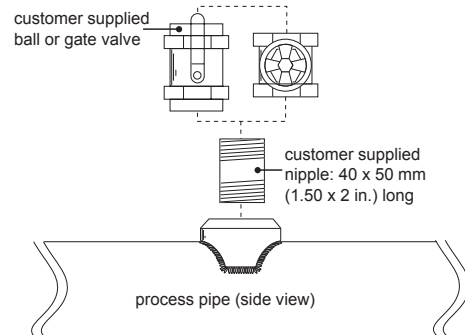

Fig. 2
- Install the pipe nipple and isolation valve (ball or gate valve) onto the external pipe fitting using pipe sealant on the threads. (Fig. 2)